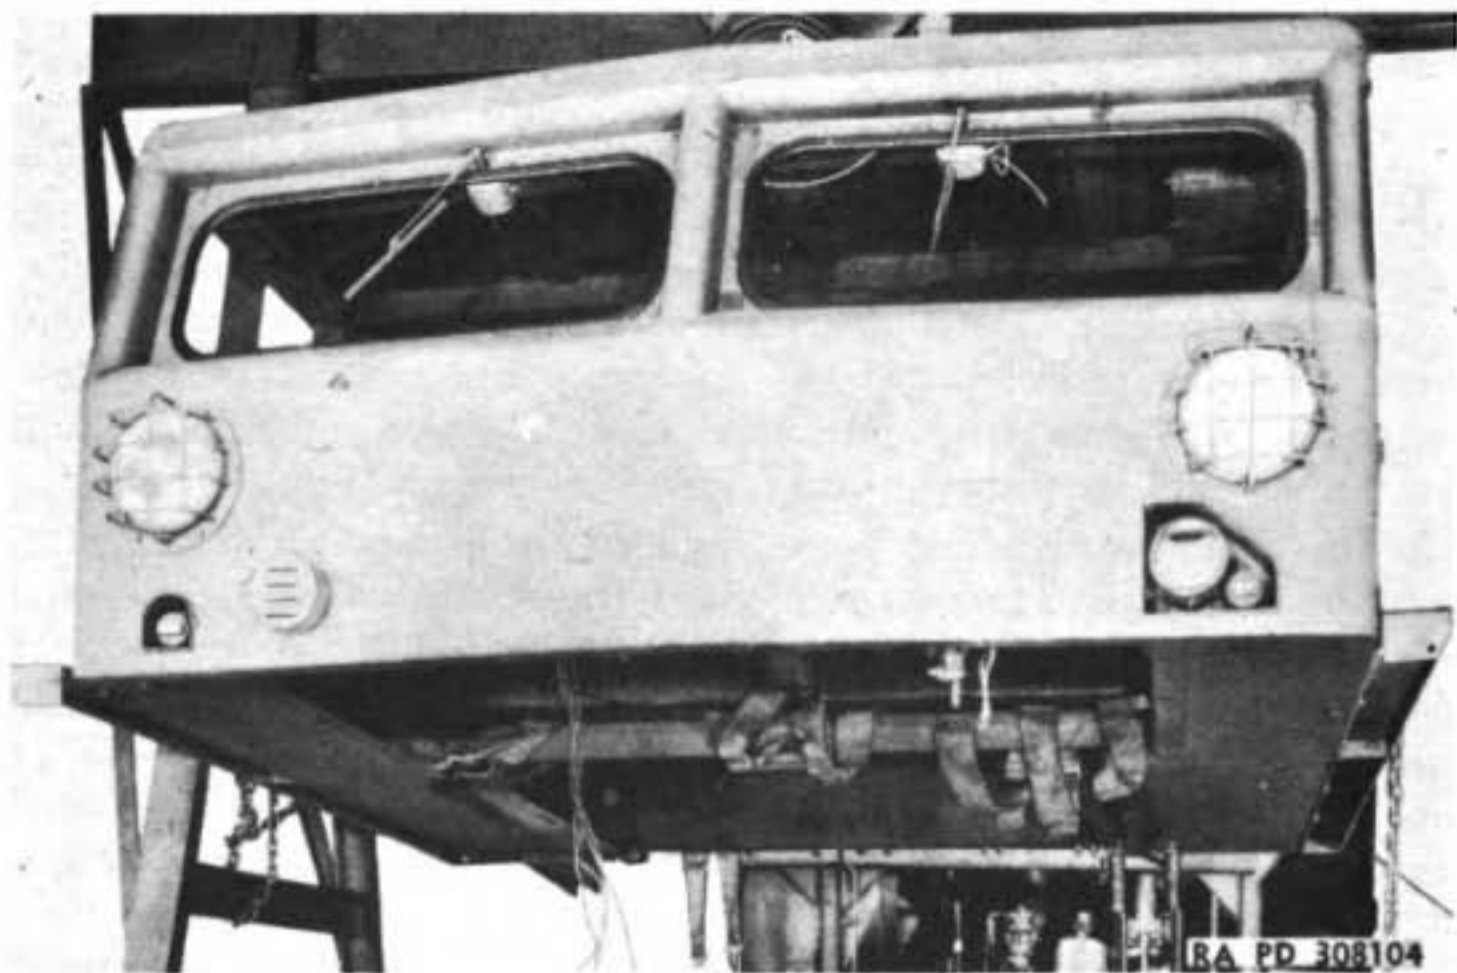

Figure 4—Lifting Cab From Tractor
d. **Remove Cab Assembly.** Remove six bolts attaching cab to rear fenders, then lower chain of hoist through turret and attach it to center post of cab. Hoist cab high enough to clear steering levers and remove cab from tractor (fig. 4).